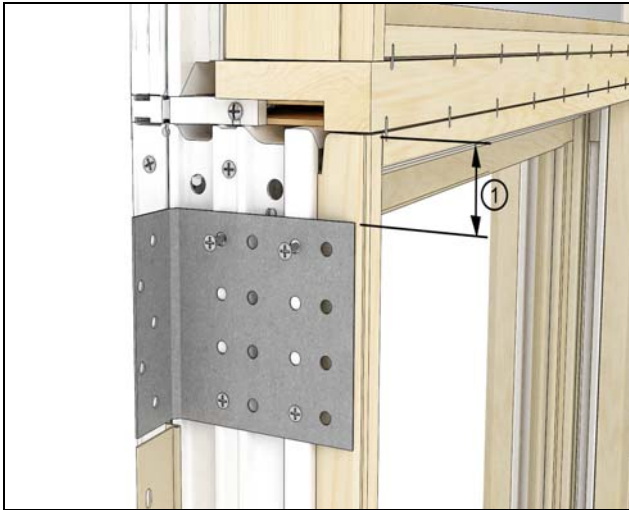

Figure 8
1. On lower units, place the mull clips 1 1/2" on either side of each mull point. Attach with eight #7 x 5/8" Phillips flat head screws. See Figure 8.